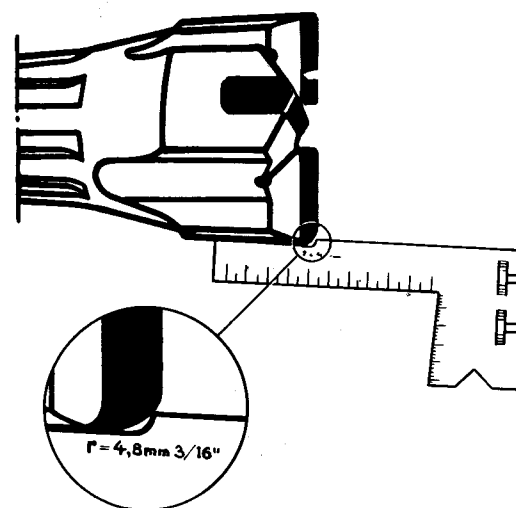

Fig. 58c. Radius of insert corners
- when the insert corners are rounded to a radius of 4.8 mm (Fig. 58c)